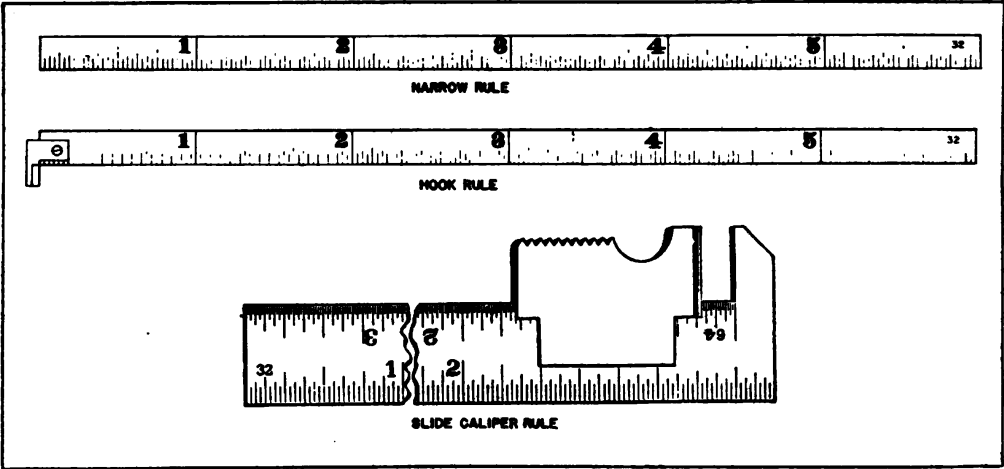

FIGURE 79.—Narrow, hook, and caliper rules.
b. Types of rules.—The mechanic will find the common flexible rule suitable for most purposes. Other types often used are narrow rules and hook rules, slide caliper rules (fig. 79), and the straight-edge. The narrow rule is convenient on work where an ordinary rule is too wide; the hook rule is valuable for measuring inside dimensions where the hook is an advantage; the caliper rule is used for measuring outside diameters quickly. The straightedge (not illustrated) has an accurate edge and is seldom graduated, being employed principally for finding locations rather than distances.